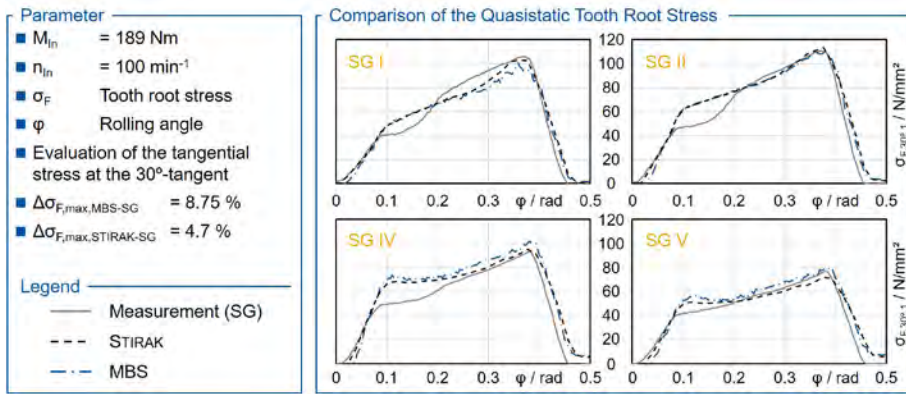

Figure 9 Comparison of the calculated and measured tooth root stress in quasistatics.
Figure 9 shows the tooth root stresses from the measurement (SG), the MBS and the *FE-Stirnradkette* for the measuring points I, II, IV and V. The measuring point III is not considered, since an increased measurement noise occurred here due to a defect in the measurement chain of the strain gauge.